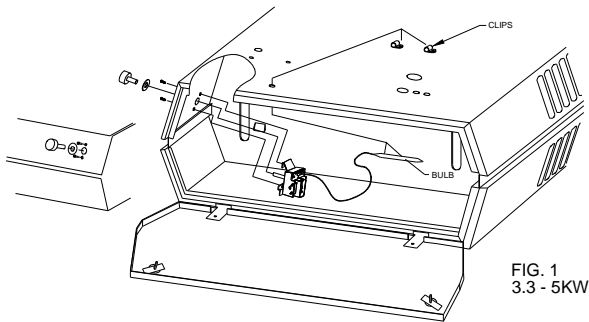

FIG. 1
- 5.) Remove the three stat mounting knockouts from side of control compartment: (1) 9/16 & (2) 3/16. Remove backing from label (supplied). Align label with thermostat shaft hole and position as in Fig. 1. Press label on heater side as shown.
- 6.) Note orientation of leg on thermostat bracket (see Fig. 1). Position *only* as shown. Install thermostat with the (2) number 8 mounting screws provided.